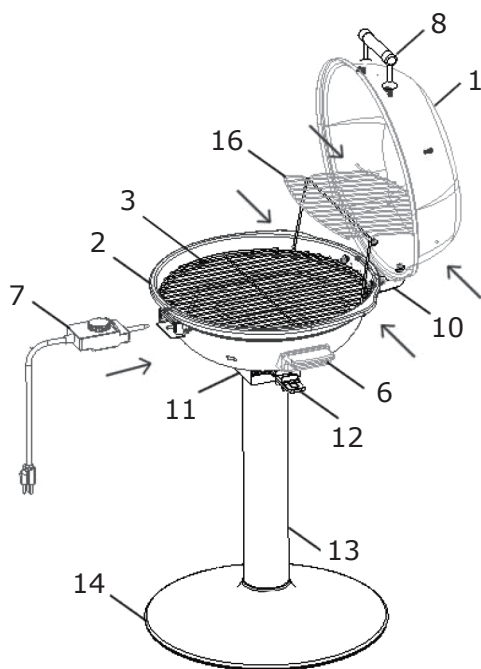

Figure 1
1. Make sure the temperature control knob is fully turned to the "OFF" position.(Fig.1 part 7)